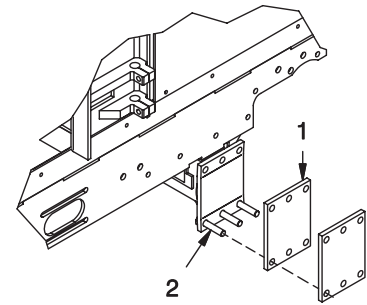

Figure 2-3-3 - Mounting Spacer's
A. Place (3) Item 2 Bolts through the axle, and (2) Item 1 Spacers as shown in Figure 2-3-3.